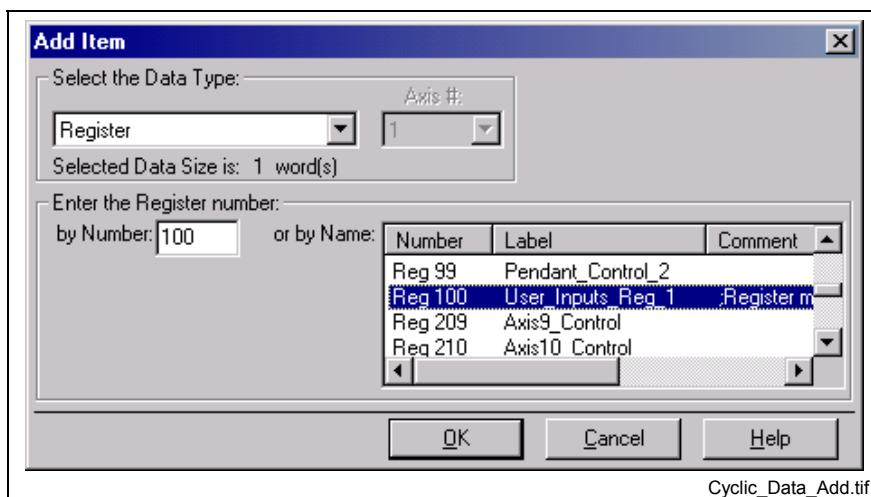

Fig. 7-166: Add Item to Cyclic Data
2. Click Add. The window in Fig. 7-166 below appears. Select the Data Type (for example, Register).